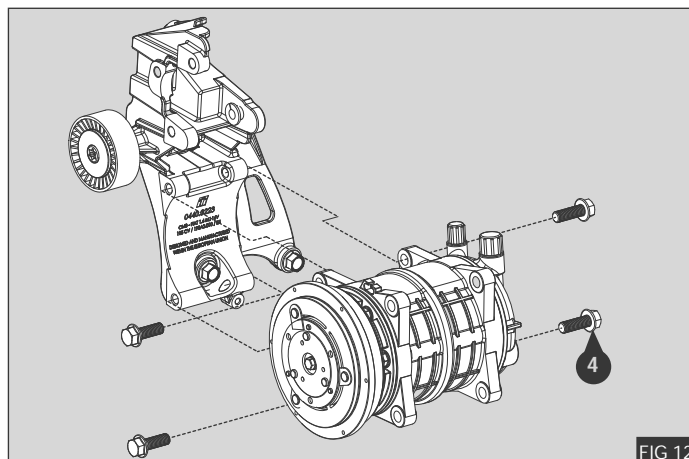

FIG 12
1. Mount the compressor to the bracket  using four M10 x 30 set screws  - Fig 12
3. Torque the bolts M10 x 30 set screw  58 Nm / 42.7 lb.ft and M10 x 35 bolt  58 Nm / 42.7 lb.ft - Fig 12.